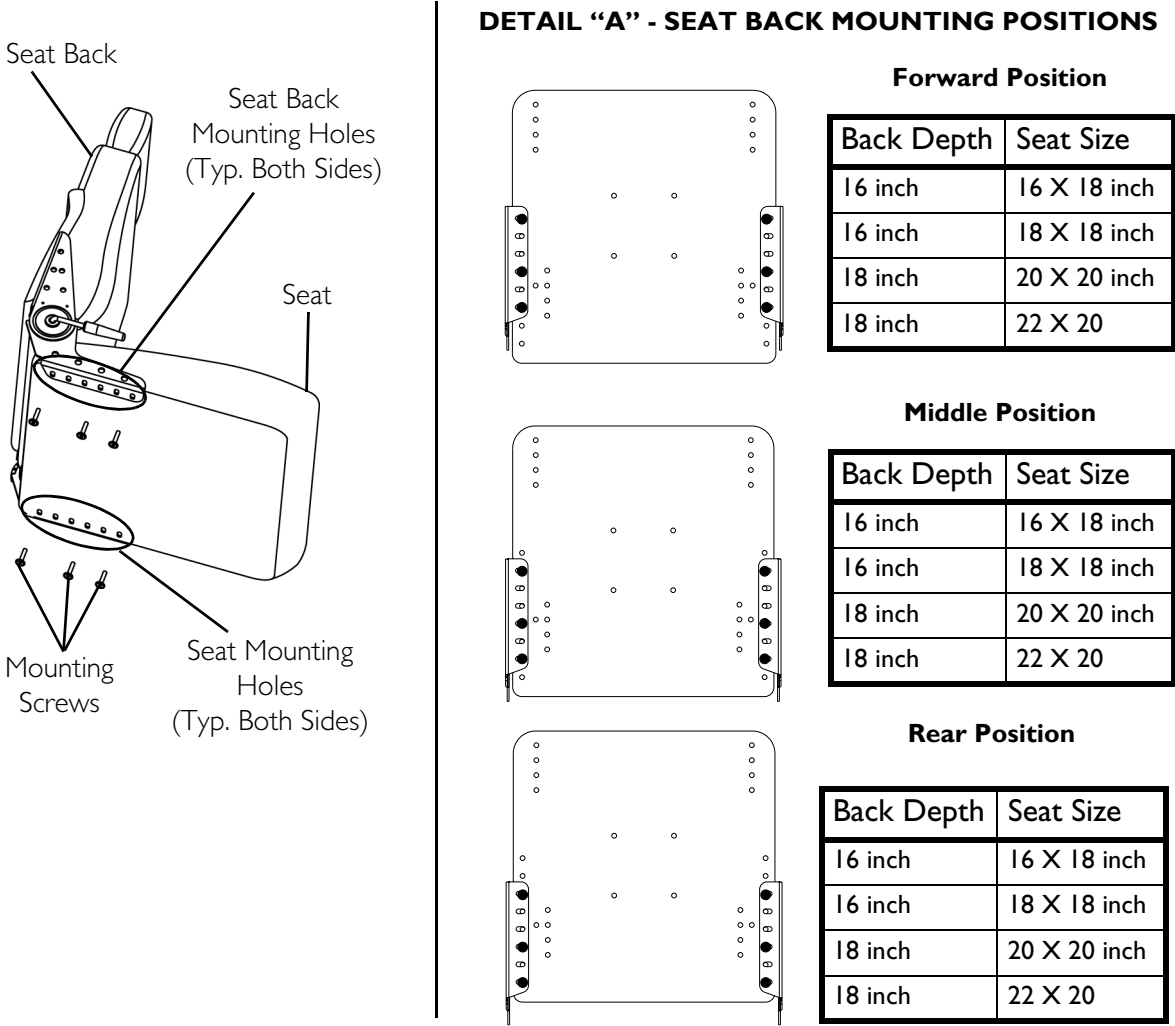

FIGURE 4.19 Adjusting the Van Seat Back Depth
NOTE: For this procedure, refer to FIGURE 4.19.
4. Align the seat mounting holes with the seat back mounting holes in the desired mounting position (Detail “A” of FIGURE 4.19).